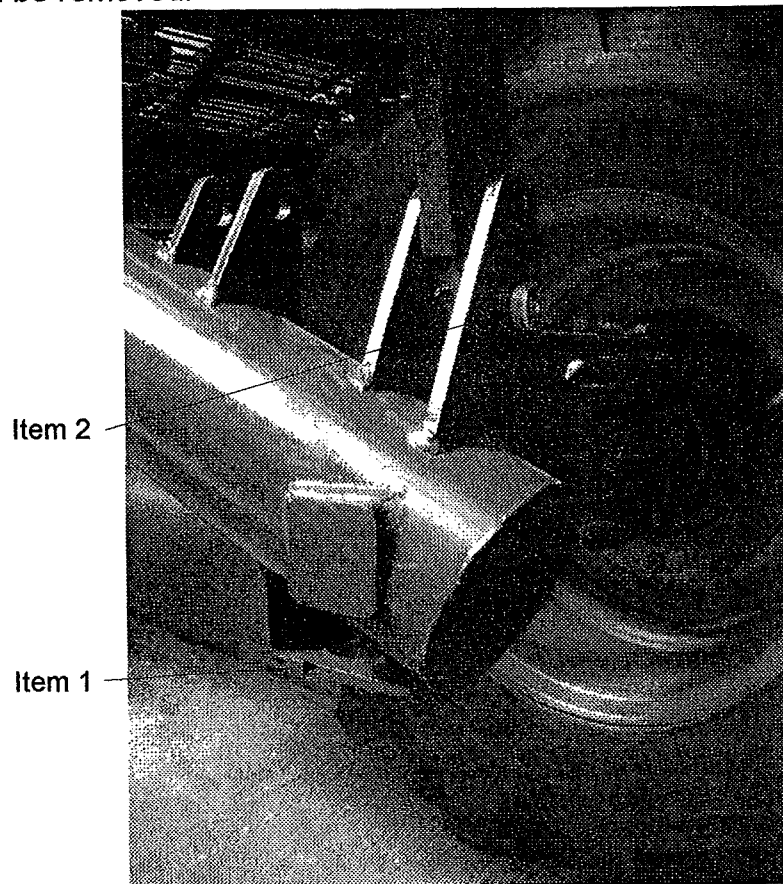

Fig 5.1
Jack up one side of the machine using the jacking point under the axle (see fig 5.1 item 1) until the wheel is clear of the ground. Place an axle stand with minimum capacity of 2500 kg. under a suitable part of the chassis. Adjust the jack until the lower retaining pin, of the levelling cylinder or support leg, is loose and can be removed.
The axle can then be raised or lowered until the hole in the levelling cylinder or support leg aligns with the required hole in the axle attachment bracket (see fig 5.1 item 2), the retaining pin can then be replaced. Repeat this operation for the opposite side of the machine, ensuring that both sides are set to the same position.